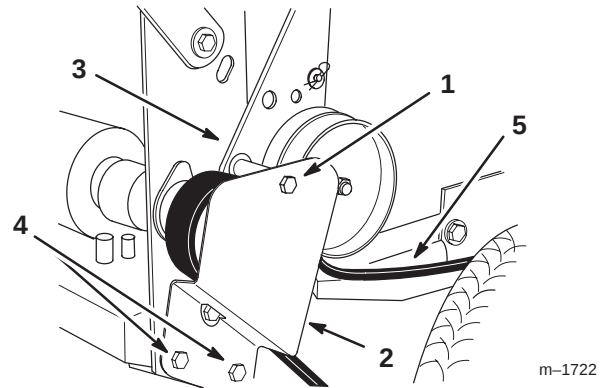

Figure 59
1. Remove the top capscrew securing idler support and idler bracket to rear frame (Fig. 59).
2. Loosen bottom two mounting screws enough to allow belt to pass between drive pulley and idler support (Fig. 59).
5. Install the top capscrew securing the idler support and idler bracket to the rear frame (Fig. 59).
6. Tighten the bottom two mounting screws enough to allow the belt to pass between the drive pulley and idler support (Fig. 59).